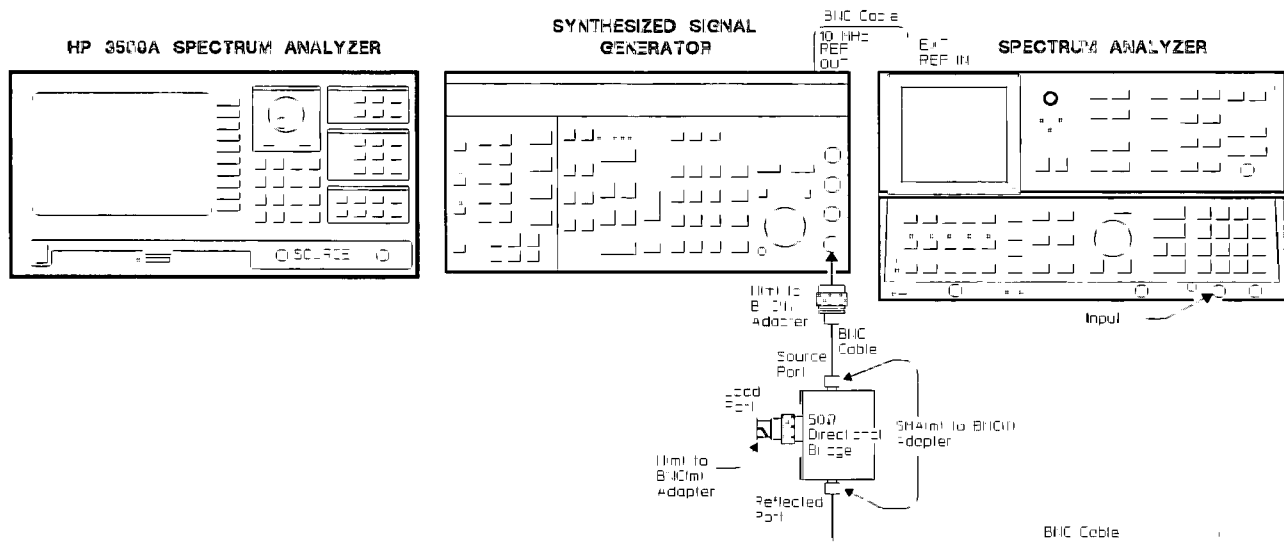

Figure 3-16 Source Return Loss Setup
1. Connect the test equipment as shown in figure 3-16.